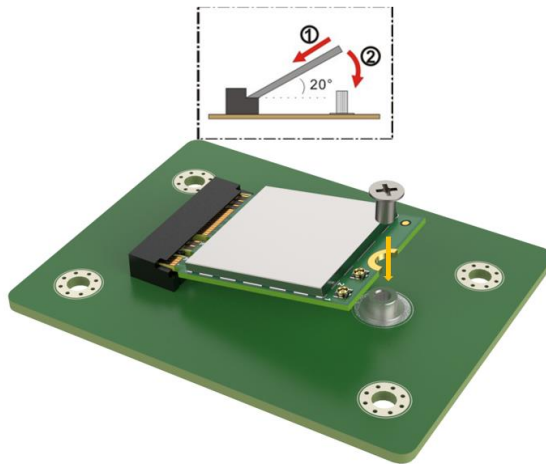

Figure 3-8: Inserting the WLAN Module
Step 5: Insert into the socket at an angle. Line up the notch on the WLAN module with the notch on the slot. Slide the WLAN module into the slot at an angle of about 20° (Figure 3-8).